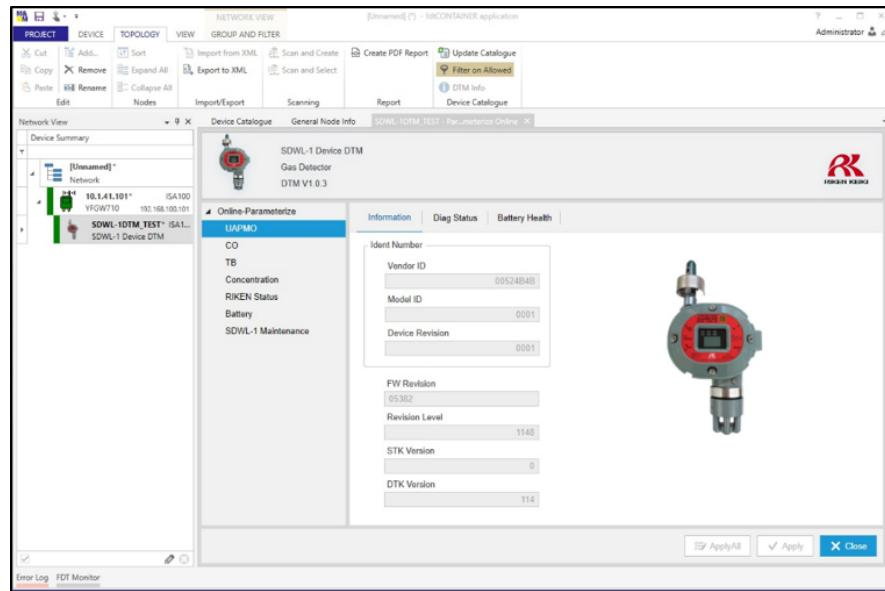

Figure 5-52 Online window
- ⑯ Once the DTM is launched, the window shown in Figure 5-52 below is displayed, and parameter loading starts. Parameters can then be checked and configured.